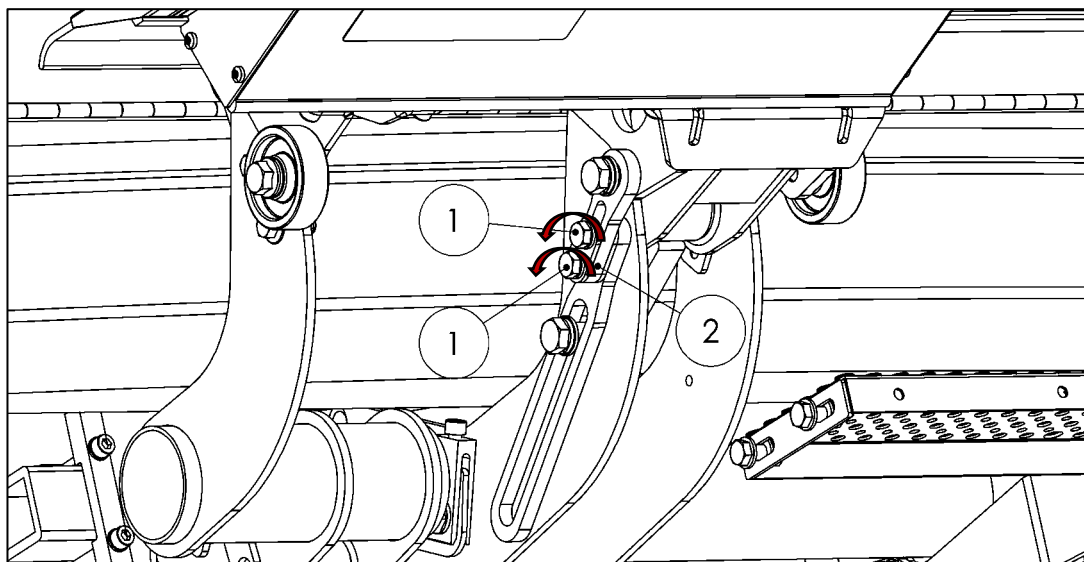

Fig. 76
- Loosen the 2 screws (1) on the clamping plate (2) (see Fig. 76).